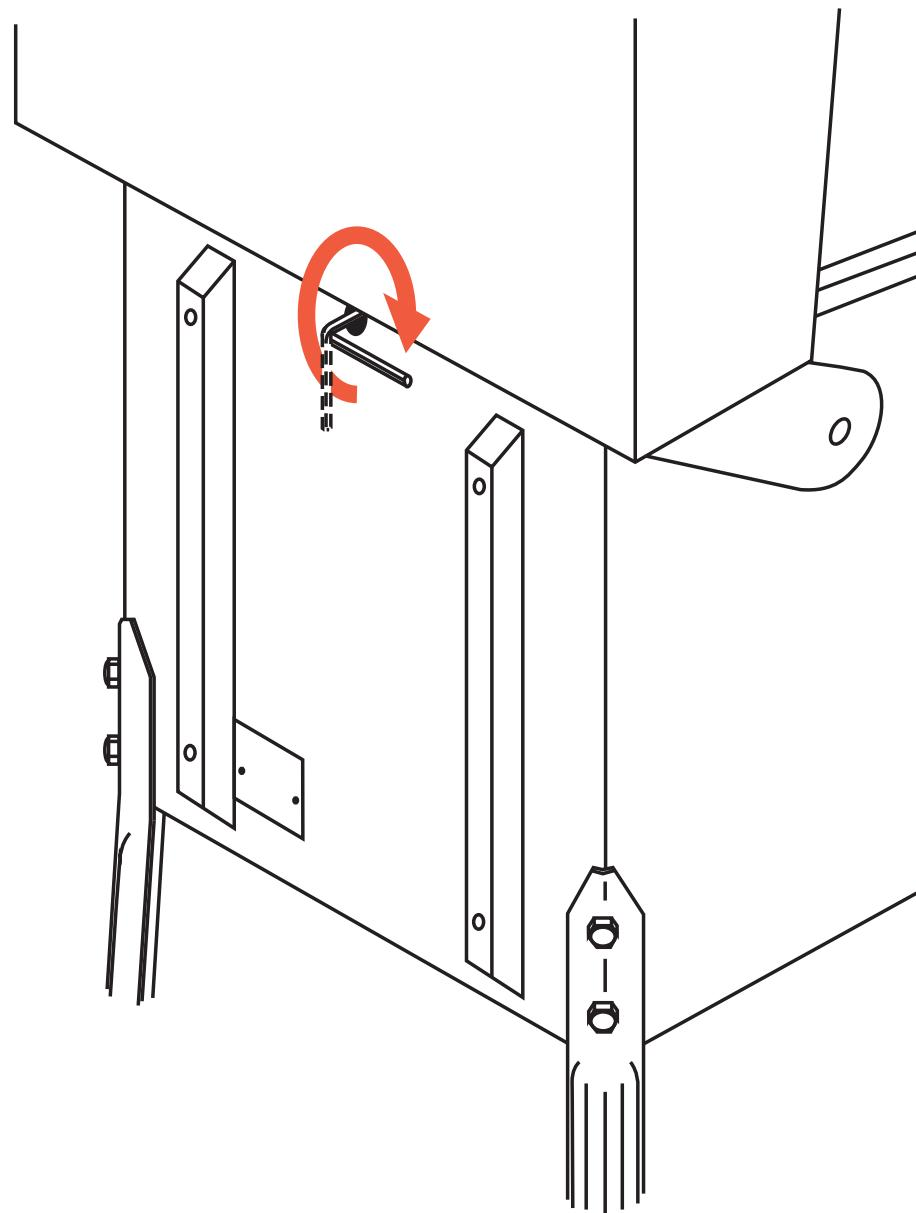

Figure A8. Locking the backbox in the upright position.
8) Locate the "L"-shaped, 5/16" hex key for the backbox Roto-Lock in the loose parts. Insert it into the hole at the base of the backbox and turn it a full 270 degrees, CW (see figure A8).